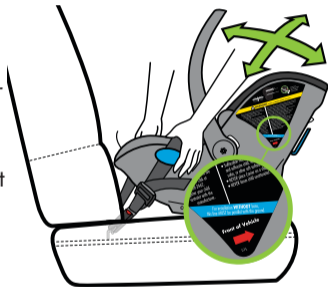

Figure 57
- Grip Carrier near blue UAS/Lap Belt Guides and pull Carrier side-to-side and front-to-back to check for secure installation, as shown in **Figure 57**. The Carrier should not move more than 2.5 cm (1 in.) at the belt path. Do not push down on Carrier near the child's feet when checking for movement.
- Verify that blue Recline Reference Line is parallel with ground, as shown in **Figure 57**. If not, loosen UAS Belt a small amount, adjust the recline of the Carrier, and go back to **Step 12**.